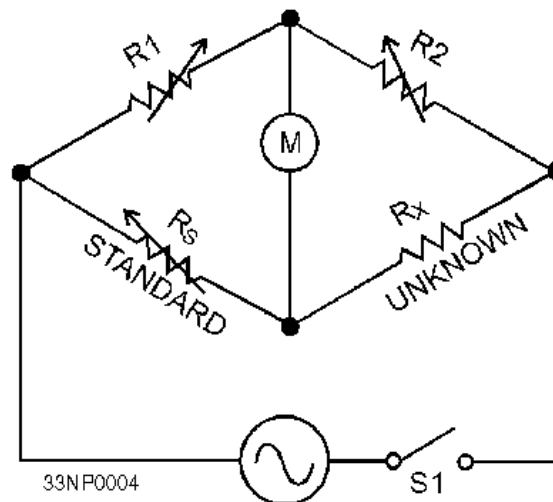

Figure 1-6.—Resistance bridge (ac).
**RESISTANCE BRIDGE.**—An ac signal generator, as shown in figure 1-6, is used as the source of voltage. Current from the generator passes through resistors  $R_1$  and  $R_2$ , which are known as the ratio arms, and through  $R_s$  and  $R_x$ . Again,  $R_x$  is known as resistance.  $R_s$  has a standard value and replaces  $R_3$  in figure 1-6. When the voltage drops across  $R_2$  and  $R_s$  are equal, the voltage drops across  $R_2$  and  $R_x$  are also equal; no difference of potential exists across the meter and no current flows through it. As we discovered with the Wheatstone bridge, when no voltage appears across the meter, the following ratio is true:
For example, if in figure 1-6 we know that  $R_1$  is 20 ohms,  $R_2$  is 40 ohms, and  $R_s$  is 60 ohms, we can find the value of  $R_x$  using our formula as follows: